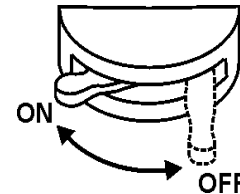

Figure 64. Battery ON/OFF Switch
2. Set the **battery ON/OFF switch** (Figure 64) to the "**ON**" position.